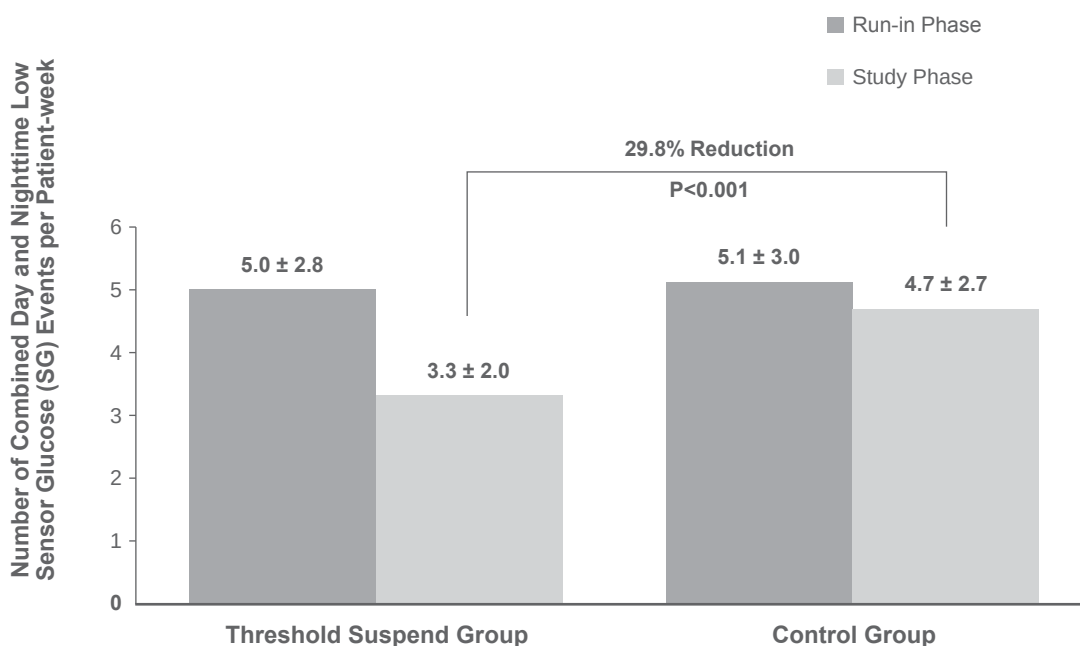

Figure 6 - Number of Combined Day and Nighttime Low Sensor Glucose Events per Patient-Week (mean ± SD).
- Combined Day and Nighttime: Similarly, the rate of combined day and nighttime low sensor glucose events was 29.8% lower in the Threshold Suspend Group vs. the Control Group (3.3 vs. 4.7 low sensor glucose events per patient-week, $p < 0.001$, **Figure 6**).